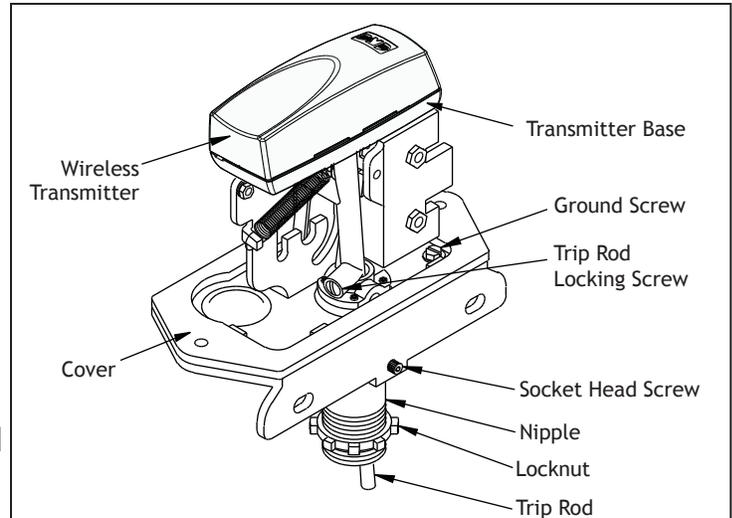

Figure 1: 1181 PIV Parts Location
7. Place the locknut that is provided onto the nipple. See Figure 1.